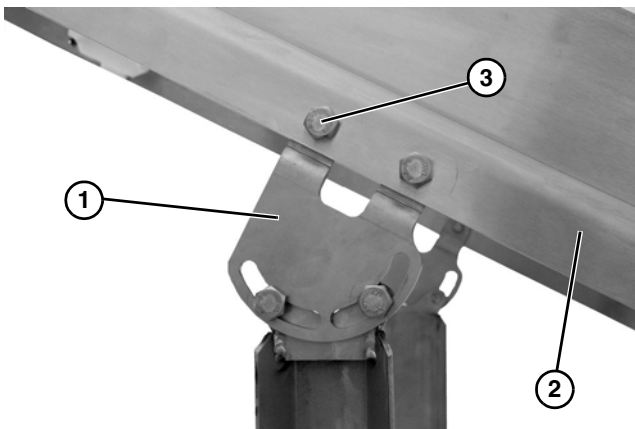

Figure 4
3. Attach the bracket (**Figure 4, item 1**) to the conveyor (**Figure 4, item 2**) and tighten the four bolts (**Figure 4, item 3**).